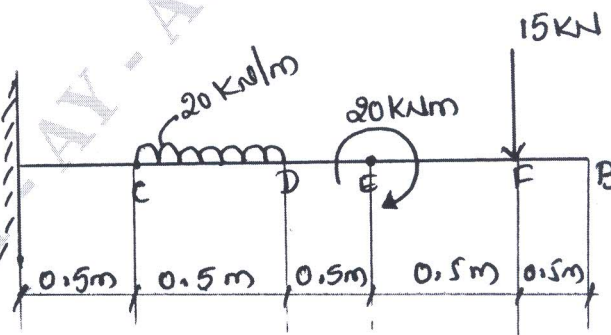

Fig.Q6(b)
b. Determine the slope and deflection at the free end of the cantilever shown in Fig.Q6(b). Take $I = 200 \times 10^{-6} \text{m}^4$, $E = 2 \times 10^8 \text{KN/m}^2$. (10 Marks)